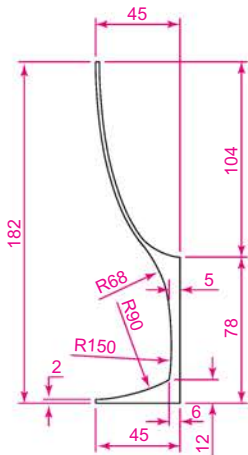
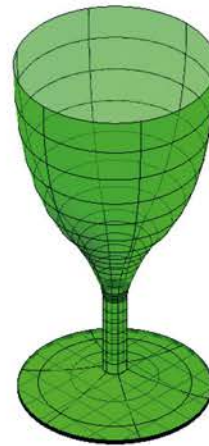

Fig. 9.44 Exercise 4 – outline drawing
Fig. 9.45 Exercise 4
- Construct the 3D model of a wine glass as shown in Fig. 9.45, working to the dimensions given in the outline drawing Fig. 9.44.